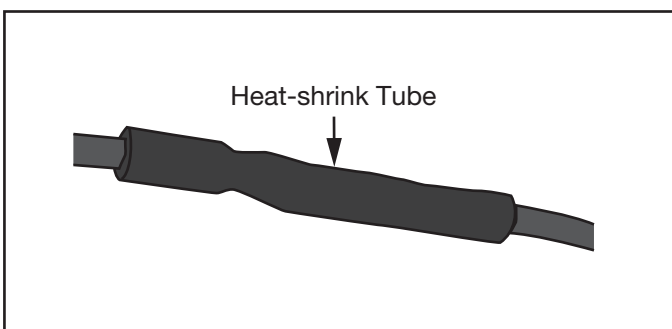

Figure 11. Proper Heat-shrink Tube Application
9. Continue heating the heat-shrink tube towards the ends but be CAREFUL not to heat the cables directly as they can be DAMAGED. See Figure 11.